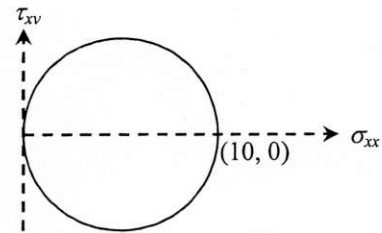

**Figure 2**
2. Calculate the required dimension 'a' of the rectangular rod ABC shown in the **Figure 2** if allowable shear stress is 20 ksi. For the dimension 'a', calculate the maximum angle of twist in the rod [ $G = 12000 \text{ ksi}$ ].